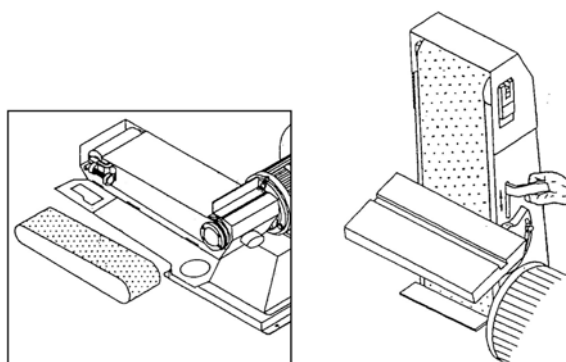

Fig. 16: Changing the sanding belt
Step 1: Open the side flap of the sanding arm cover and loose the tension of sanding belt with the tension lever (Fig. 16).